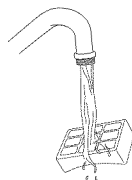

Fig. 27
- 4 Wash the filter under the tap using lukewarm water with the dirty side face down until the water runs clear. (Fig. 27)